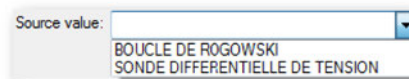

Figure 3.10: Search using the Source value
- 4 Enter a source value. This value is most likely a name from your customer database used in the column marked with the **Sensor Type** source field. The **Source value** combo box list shows all the names it found in the customer column (Figure 3.10).